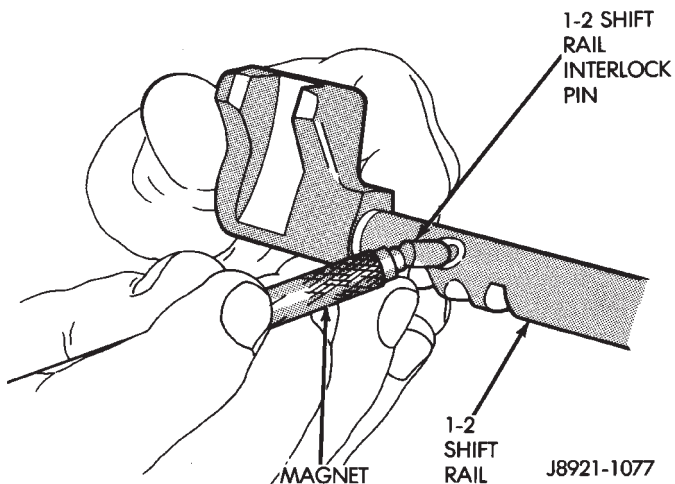

Fig. 86 Install 1-2 Shift Rail Interlock Pin
- (15) Install interlock pin in 1-2 shift rail (Fig. 86).